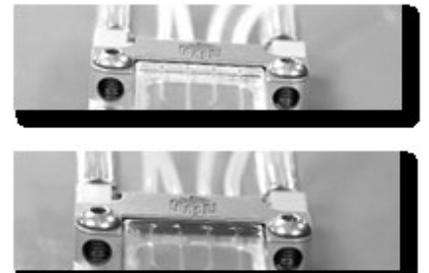

Figure 10
- Gradually tighten diagonally opposite corners. Where the seal touches the edge of the chip, a colour change can be observed when the correct tightness is achieved. See Figure 10.